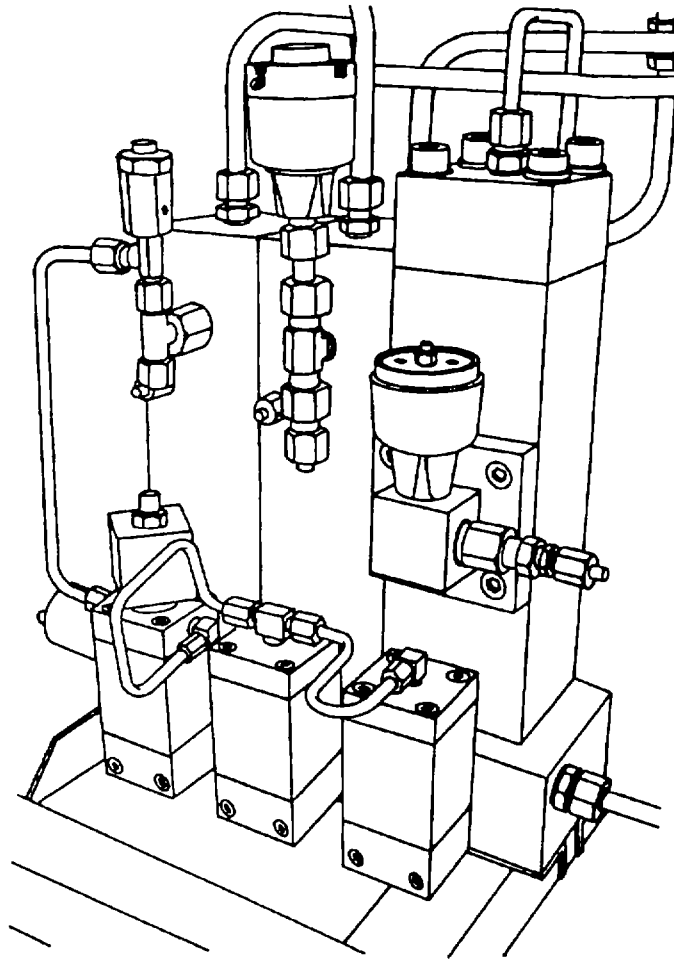

Figure 3-46. Separator Block
- a. Inspect exterior for damage, corrosion, loose fittings, and loose mounting bolts (figure 3-46). Perform leak test using non-ionic soapy water. Rinse and allow to dry.